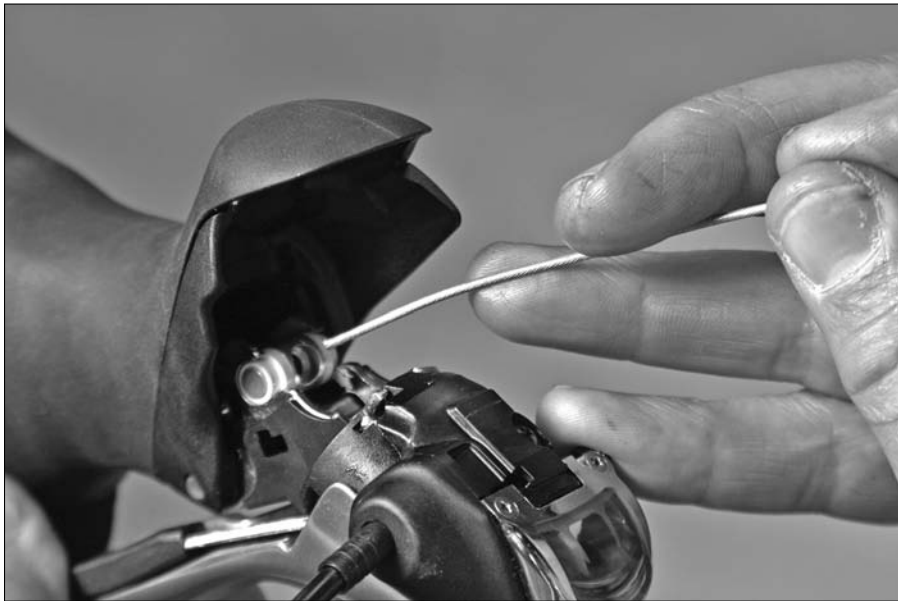

Figure 8-23:
7. When you're ready to install the new cable, use a rag to apply a light coating of grease to its surface.**8. Squeeze the brake lever and insert the cable into the hold from where you originally removed it (as shown in Figure 8-23).**